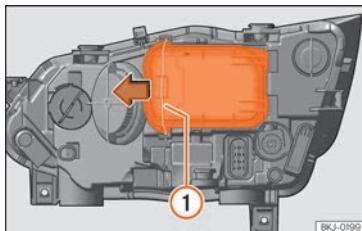

Fig. 55 In the engine compartment: remove the cover.
- Move the loop » **Fig. 55** ① in the direction of the arrow and remove the cover.